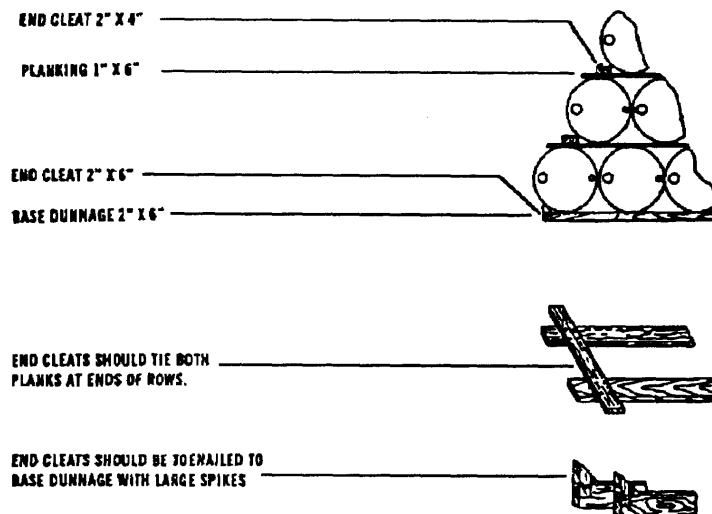

Figure I-3. Dunnaged stack.
- Make a foundation for each unit of drums by laying out four 70-foot rows of 2- by 6-inch lumber or other suitable dunnage. Stand the lumber on edge, attaching cross braces between the rows to hold the lumber in place, as in figure I-3.
- Attach wooden cleats to the dunnage at the ends of each row (figure I-3).
- Place two double rows of 1-inch planks on top of the first tier. Then attach wooden cleats to the planks at the end of each row (figure I-3).